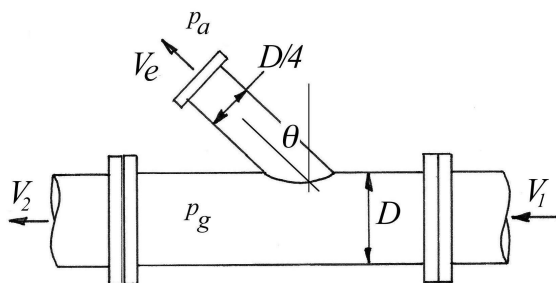

Figure P3.46
3.46 A circular pipe of diameter D carries a steady flow of air of constant density ρ and a constant gauge pressure of p_g . A portion of the flow exits to atmosphere through a circular exit of diameter $D/4$ at a velocity $V_e = 4V_1$, as shown in Figure P3.46. Assume one-dimensional flow and ignore gravity. Show your control volumes and all your working clearly, state all your assumptions, and indicate your coordinate system.